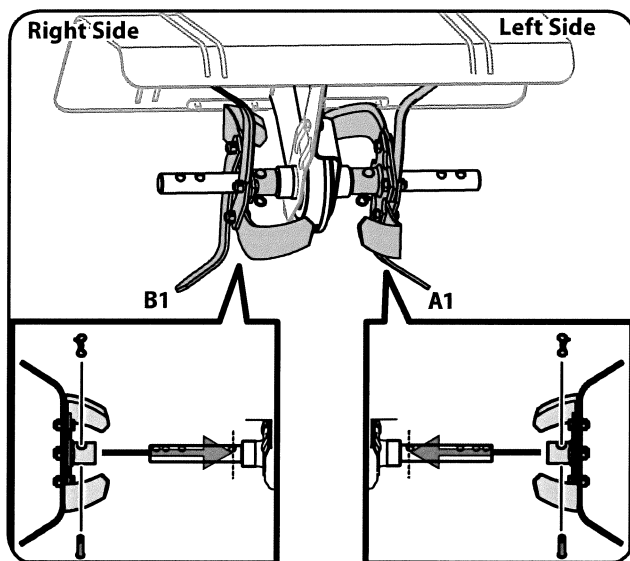

Figure 3-1
2. Use two clevis pins and two cotter pins from the manual bag. From the FRONT of the tiller install the inner LH tines (A1) onto the inner left side of the shaft. Install the inner RH tines (B1) onto the inner right side of the shaft. See Figure 3-1.